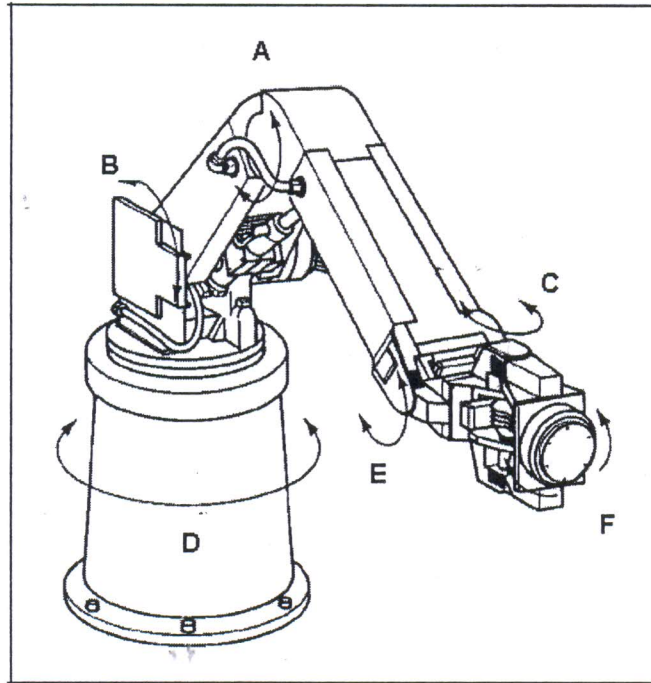

Figure 1: Robot Mechanical Arm
- (a) Label all components shown in Figure 1 (6 marks)